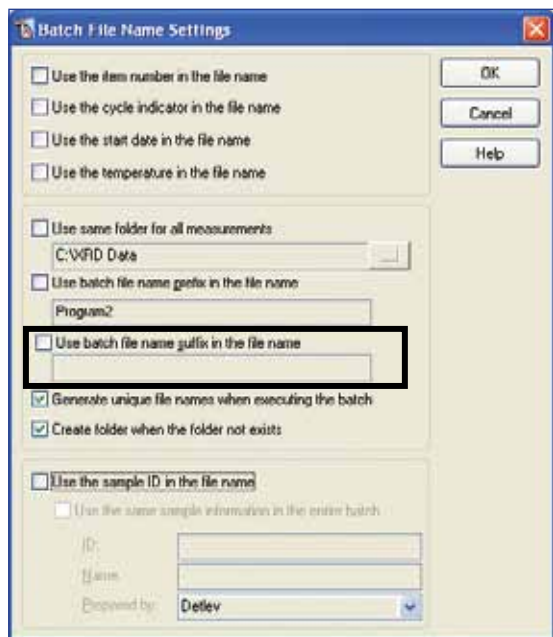

Figure 42. Batch File Name Settings window with indicated switched off functions.
3. Select button *FILE NAME SETTINGS* and **switch off** the options *Use the temperature in the file name* and *Use sample ID in the file name*, see Figure 42.